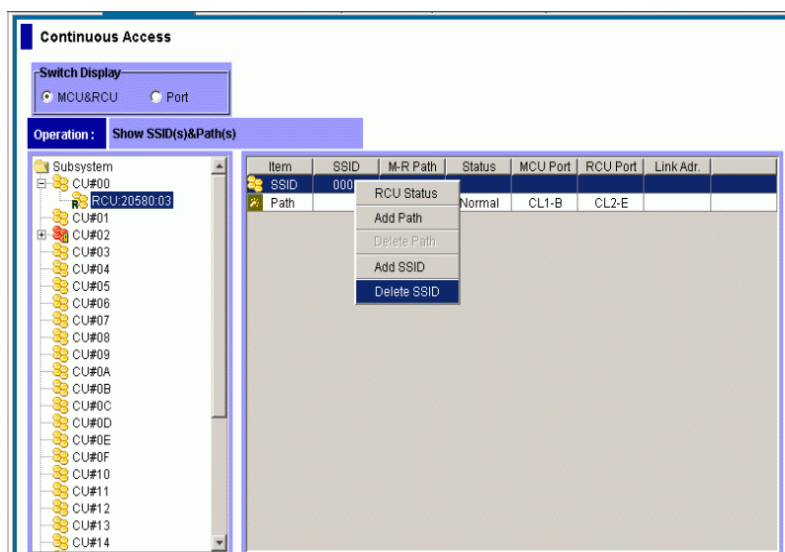

Figure 313 Adding/deleting SSIDs for existing RCUs
- b. Right-click, and click **Delete SSID** (see Figure 313). The list changes to the SSID Settings Parameter list. Only RCUs to be deleted are listed.